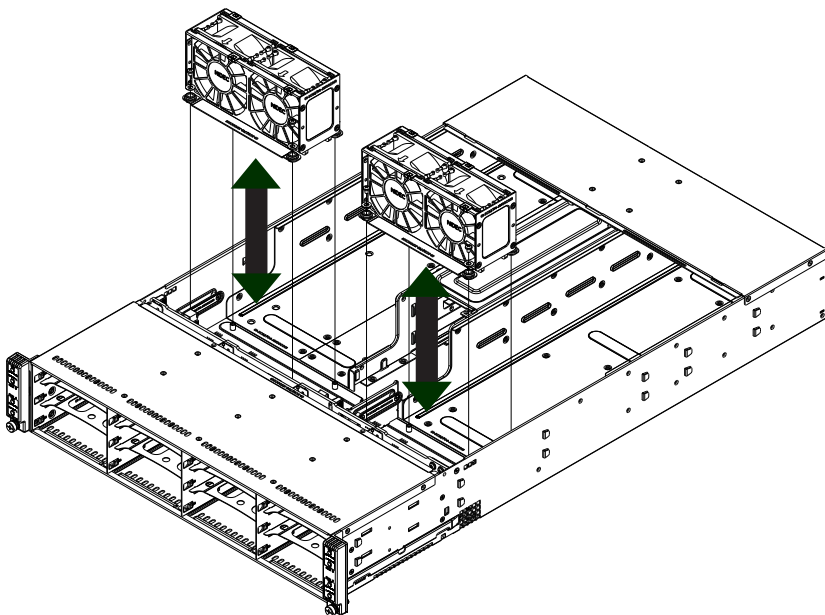
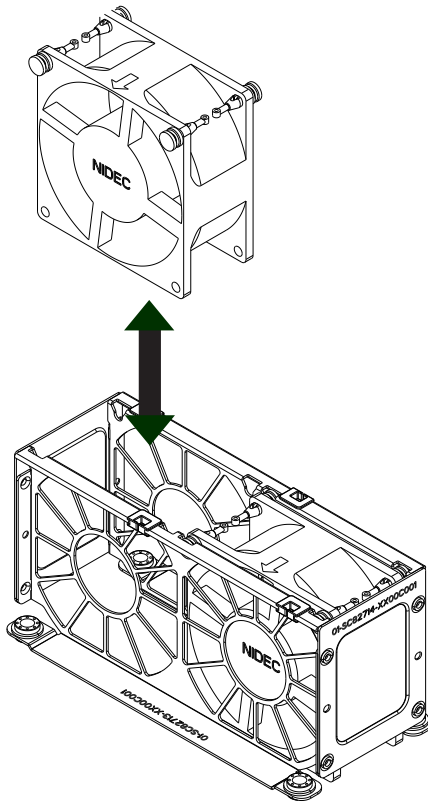

Figure 6-4. System Fan Placement
Figure 6-5. Replacing a System Fan in the Fan Housing
The SC827HQ+ model chassis is designed so that the default configuration of the system is for each serverboard to control two fans (Figure 6-4). The fans are hot-swappable. Each serverboard node in the chassis is connected to the backplane through the adapter card, mounted in the serverboard drawer. In the event that one of the serverboard drawers is removed, then the remaining serverboard will operate both fans.
6. Put the fan back into the chassis and reconnect the cable (see Figure 6-4 and Figure 6-5 for details).